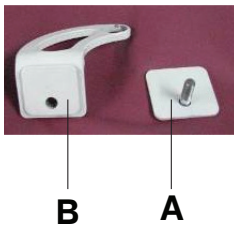
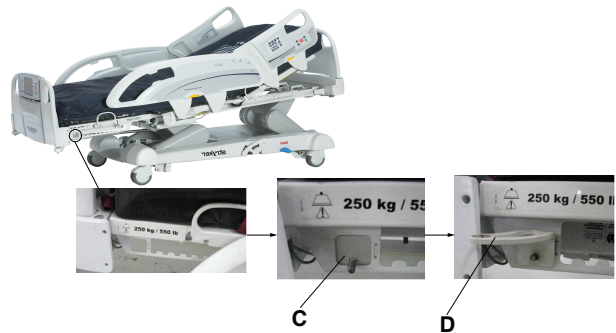

Figure 93: Bracket and bracket back
Figure 94: Installing the bracket back and bracket
1. Install the bracket back (A) and the bracket (B) (Figure 93 on page 101) onto the end of the foot end foley bag hook at the foot end of the product (C and D) (Figure 94 on page 101).